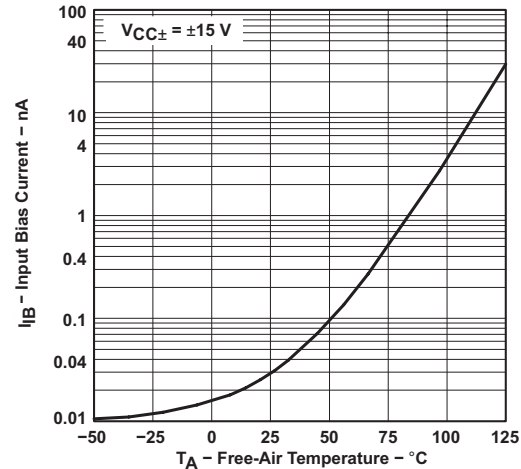

Figure 12. Input Bias Current vs Free-Air Temperature
- (1) All characteristics are measured under open-loop conditions with zero common-mode input voltage, unless otherwise specified. Full range for T_A is 0°C to 70°C for TL06xC, TL06xAC, and TL06xBC and -40°C to 85°C for TL06xI.
- (2) Input bias currents of an FET-input operational amplifier are normal junction reverse currents, which are temperature sensitive, as shown in Figure 12. Pulse techniques are used to maintain the junction temperature as close to the ambient temperature as possible.
- (1) All characteristics are measured under open-loop conditions, with zero common-mode voltage, unless otherwise specified.
- (2) This parameter is not production tested.
- (3) Input bias currents of an FET-input operational amplifier are normal junction reverse currents, which are temperature sensitive, as shown in Figure 12. Pulse techniques are used to maintain the junction temperature as close to the ambient temperature as possible.
Input bias current versus Free-air temperature	Figure 12